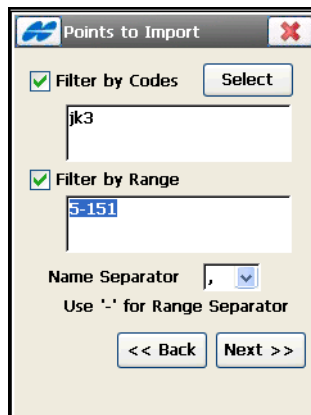

Figure 5-6. Points to Import
- **Points To Import** if the points are filtered *By Range and Code* (see Figure 5-6 on page 5-6)
The *Points to Import* screen filters imported points (Figure 5-6 on page 5-6).